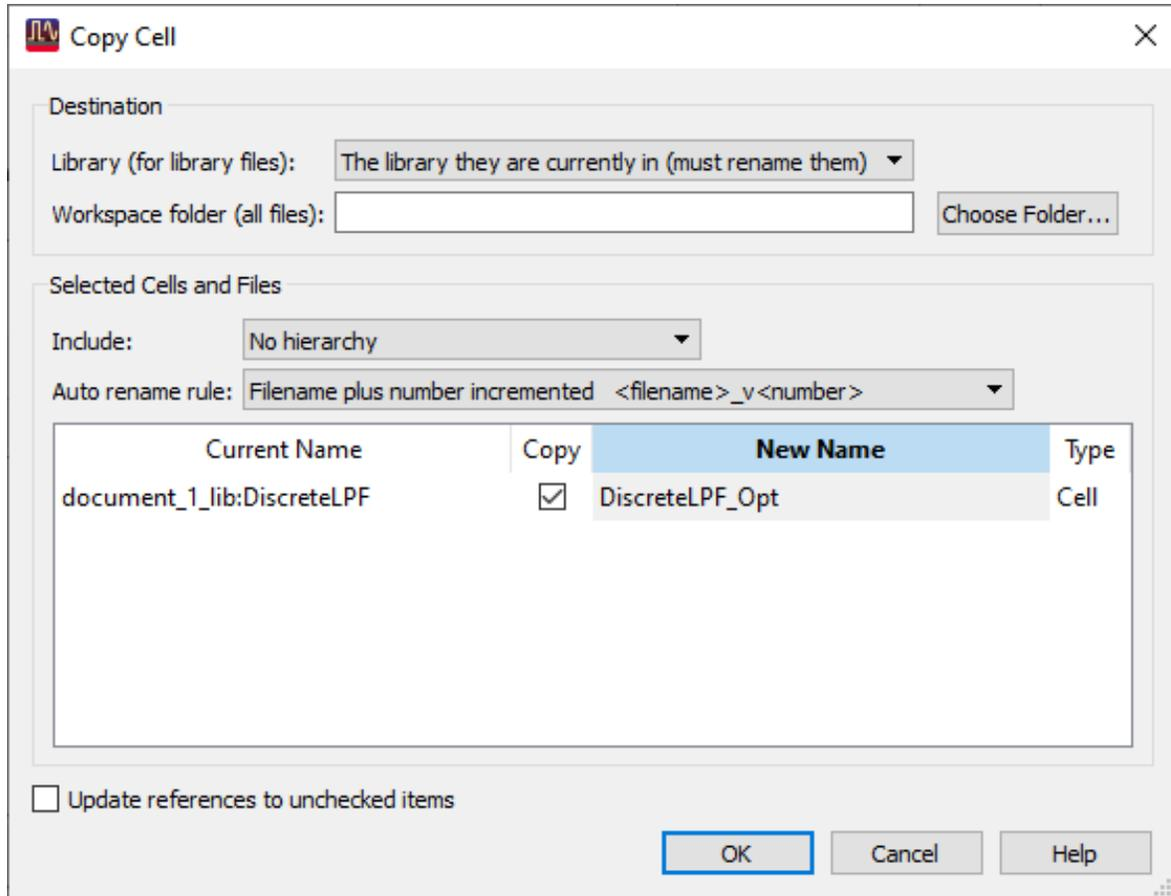

Figure 8. Copy Cell
- The Copy Cell window will open. Name the copied cell **DiscreteLPF_Opt**. Note that if the cell is hierarchical, then we should use the option **Include Hierarchy...**. If the workspace has folders, then you can copy this into the specific folder by clicking on **Choose Folder**. This window is shown in Figure 8. Click **OK**.